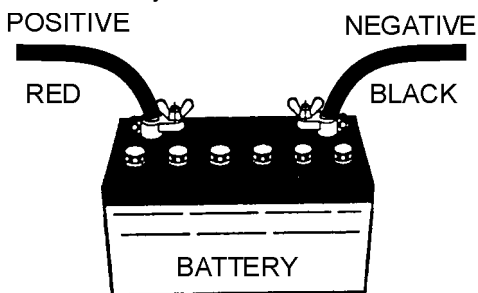

**Figure 9. Fuel Gauge**
3. Read the fuel gauge located on top of the fuel tank (Figure 9) to determine if the fuel level is low. If fuel is low, replenish with clean unleaded fuel.